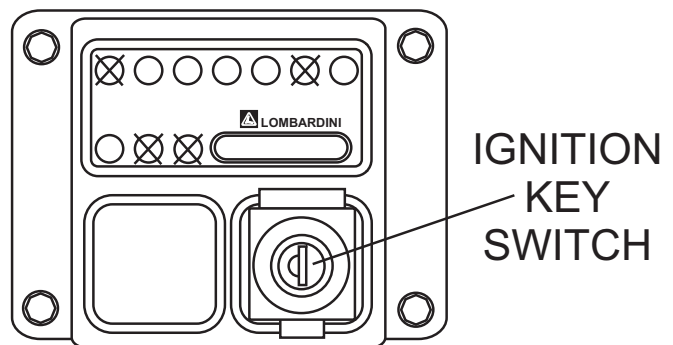

**Figure 14. Ignition Key Switch (Perkins Engine)**
2. Insert the ignition key into the ignition key switch (Figure 14). Turn the ignition key clockwise to the ON position. The preheat indicator lamp will light. Wait for this indicator lamp to go OFF. When the indicator lamp goes OFF, the glow plugs have been preheated and the engine can now be started.